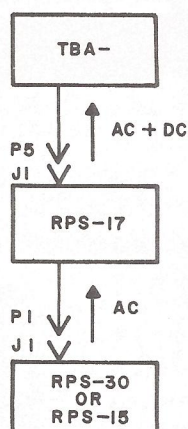

Fig. 2
- Where it is desired to use a TBA-1 without a Model TML-1, a Model RPS-17 is required to supply the proper voltages. The RPS-17 requires a 19 to 30 vac input which can be obtained from a Model RPS-15 or RPS-30, the choice depending on the power requirements of any other equipment to be remotely energized (see fig. 2).